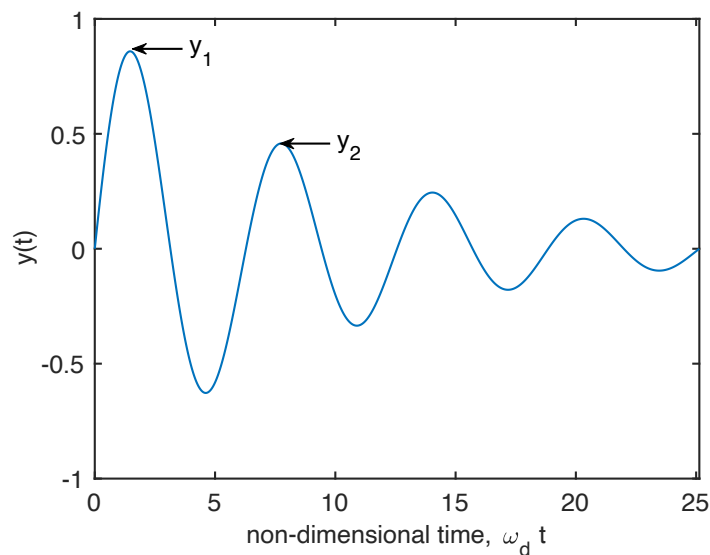

Figure 3 – An example of “ringing” behavior for a damped harmonic oscillator.
Your data should look similar to Fig. 3. It should be a nice sinusoid with an exponential decay envelope, just as you would expect for the ringing of a damped harmonic oscillator. If your data is noisy, try using the smooth() function in Matlab to filter out the noise. For your lab reports, you will need to quantitatively compare your data with Eq. (4). To do this, we will use the data to calculate λ , ω_d , and ϕ and estimate A .